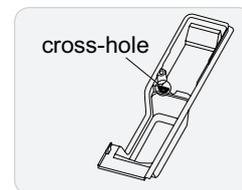

Fig.23
Note:(1) When there're multiple cables passing through it, the cross-hole of handle should be knocked off and eliminate the sharp burrs for avoid damaging the cables.(As show in Fig.23)
- (2) Only applicable for some models.